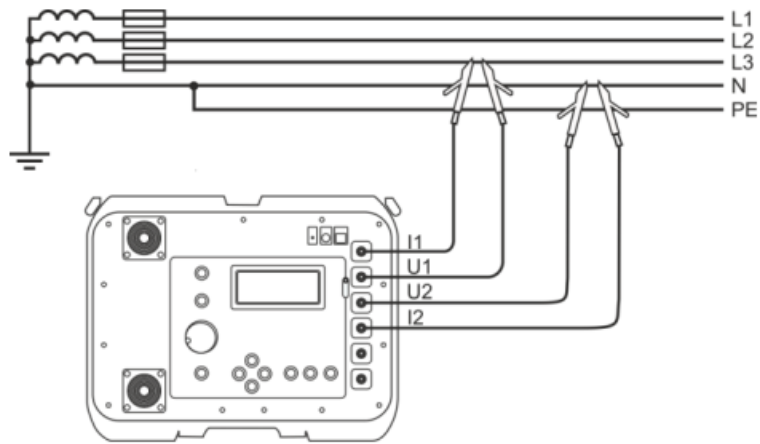
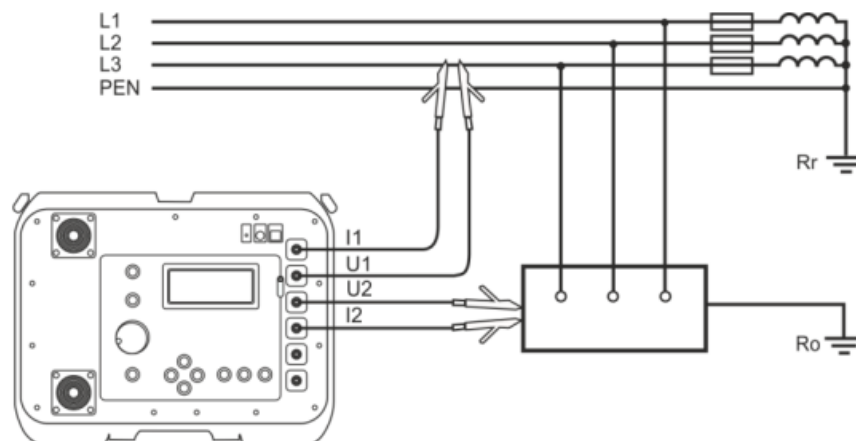

Fig. 21 Measurement of impedance in working circuit (L-N) using four-pole method
Fig. 24 Verification of the anti-shock protection reliability of appliance's housing using four-pole method for: a) TN networks b) TT networks
- connect the test leads in the following way (Fig. 21-Fig. 24):